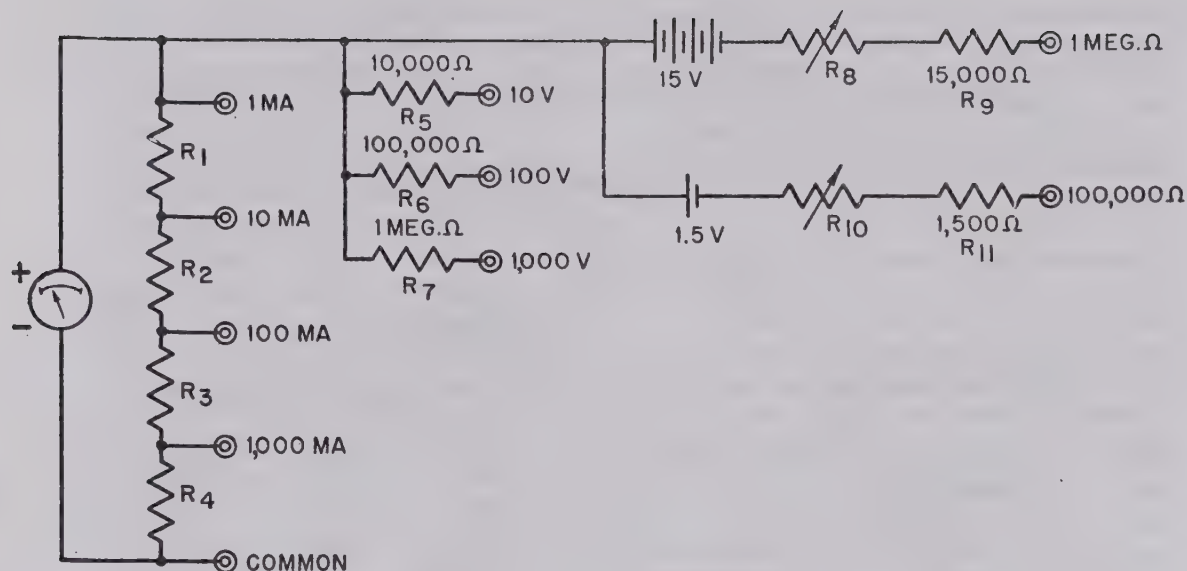

Figure 48. D-c volt-ohm-milliammeter circuit.
(1) The circuit of a simple volt-ohm-milliammeter used to measure d-c voltage, current, and resistance is shown in figure 48. The circuits and ranges are selected by using pin jacks. For current measurements less than 1 ma, the test leads are plugged into the pin jacks marked 1 MA and COMMON. The current divides between the meter
- (4) The circuit of figure 48 has four direct-current ranges, three d-c voltage ranges, and two resistance ranges. Other meters of the same type may include more resistance ranges than provided here, as well as an increased number of voltage ranges. The circuit described here is limited in its application to d-c measurements. To extend its use to include a-c measurements, some type of rectifier circuit must be added.
- (3) Current and resistance measurements are made in the manner described for the circuit of figure 48. When the $R \times 100$ jack is used, an additional battery, generally about 4.5 volts, provides enough current through the circuit for a convenient meter reading. For all resistance measurements, the test leads are plugged in the jack